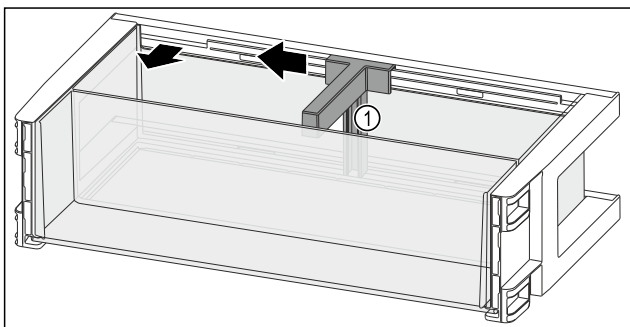

Fig. 108
- ▶ Push the bottle holder Fig. 108 (1) to the side up to the recess.
- ▶ Remove the bottle holder Fig. 108 (1).